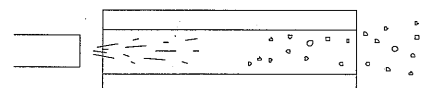

Fig. 4
- (2) Air-flush the pipe to remove any foreign matter or chippings inside the pipe before piping. (Fig. 4)